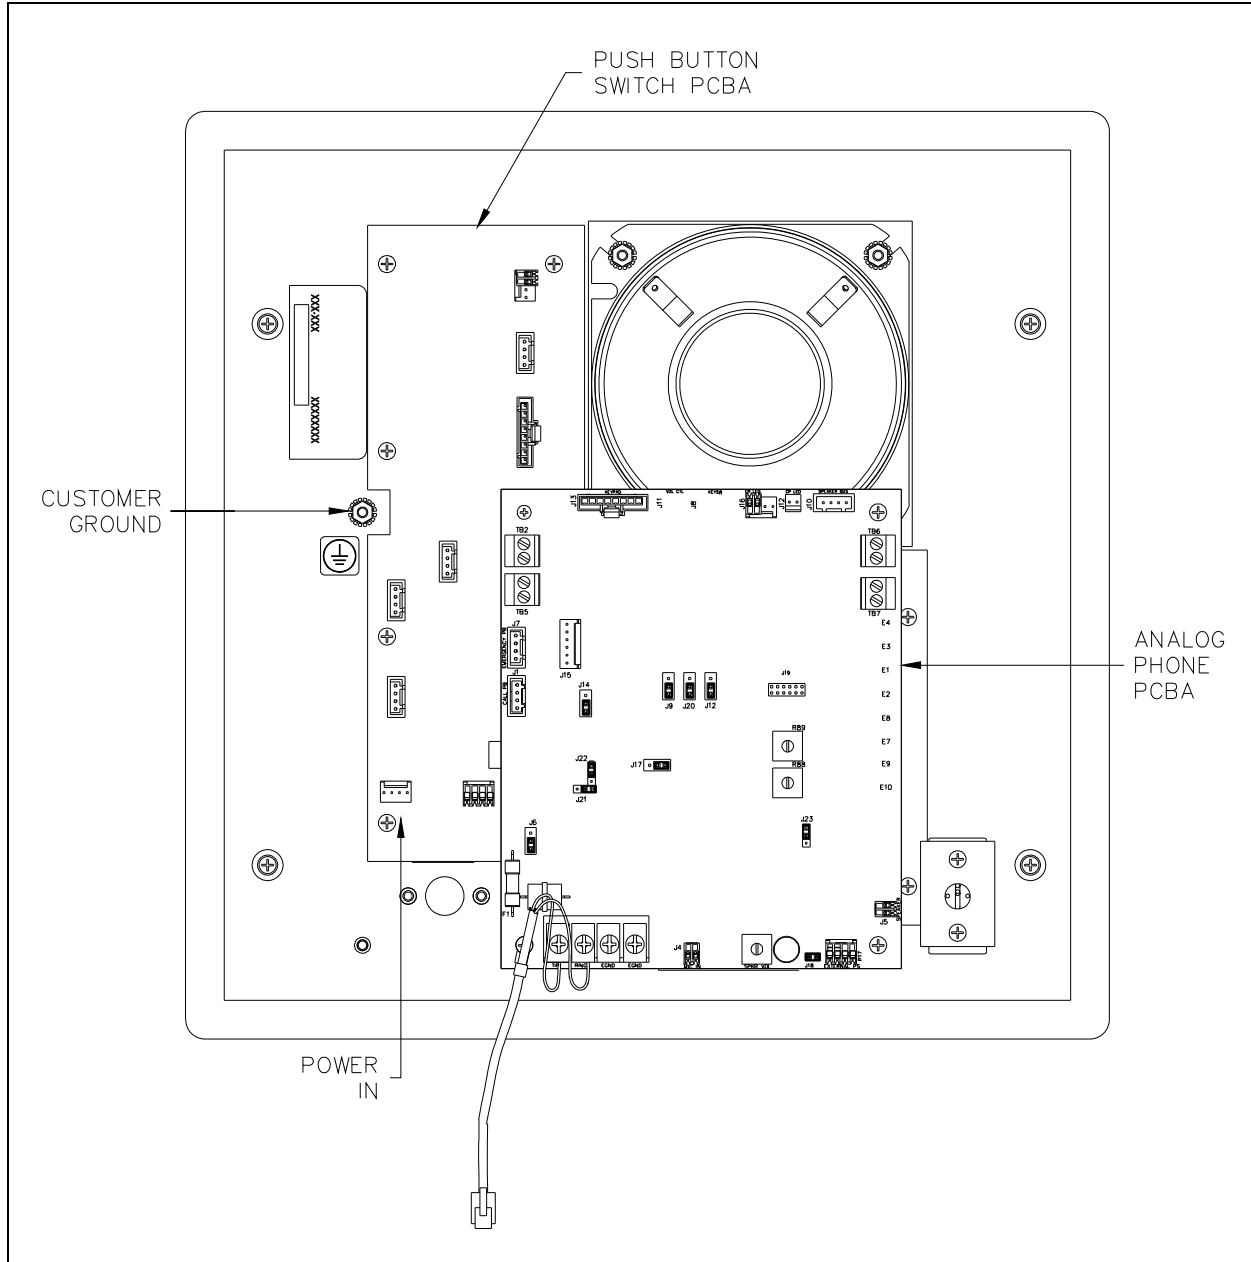
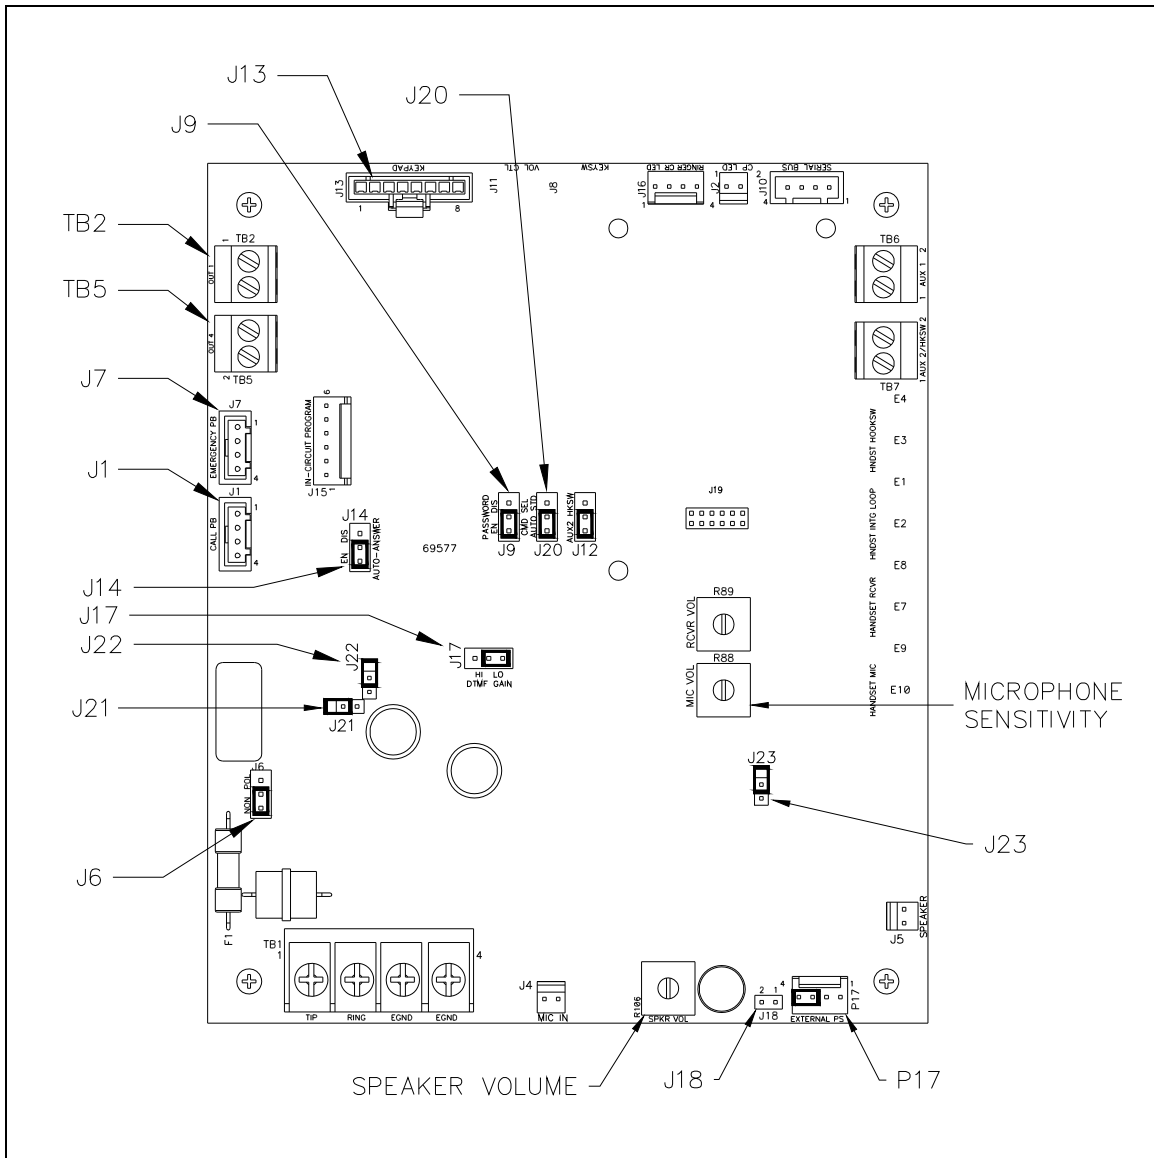

Figure 4. Inside Front Panel
Figure 9. No. 69577-101 PCBA (Top View)
8. Connect the telephone line from the PCBA into the modular jack. Plug the power supply connector into P18 on the Push-Button Switch PCBA. See Figure 4.
7. Plug both the telephone line from the PCBA and the field telephone line into the modular jack. Plug the power supply connector into P18 on the Push-Button Switch PCBA. Refer to Figure 4.
The Plug-in Power Supply provided with each telephone requires 100–240 V ac input to provide a 5 V dc output to the unit. The power supply's connectorized, 4-foot power cable plugs into P18 on the Push Button Switch PCBA. Refer to Figure 4 on page 11, and see Figure 9 on page 20 for jumper locations.
The hardware configuration options are explained in detail in the following sections, and the necessary jumper settings are identified to enable or disable each option. Reading each section and recording the selected options prior to making the necessary changes is recommended. Create a record of your settings using Table 3 on page 18. See Figure 9 on page 20 for the jumper locations.
Each telephone includes two isolated solid state switches capable of switching a maximum of 48 V dc, 125 mA or 28 V_{RMS} ac, 80_{RMS} mA. TB2 (OUT1) and TB5 (OUT4) on the emergency telephone PCBA provides the connections for the auxiliary outputs. Refer to Figure 9 for the location of TB2 and TB5.
Output 1 connects to TB2 on the telephone's PCBA (refer to Figure 9). This output closes when the AUTO-DIAL1 push button is pressed and remains in that state for the duration of the telephone call.